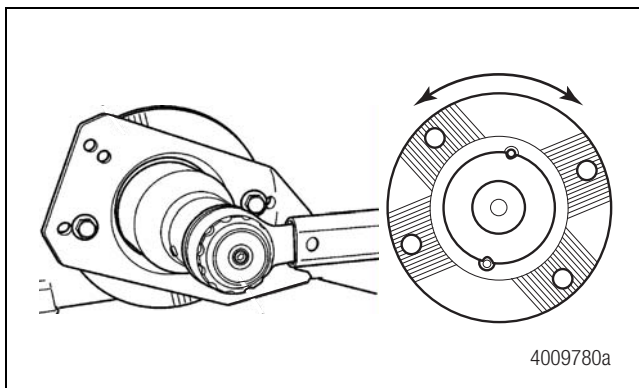

Figure 5.9
9. Oil the threads and nut. Install the old nut and tighten to 465-565 lb-ft (630-766 N•m). Rotate the shaft 10 turns in both directions during tightening. Figure 5.9.